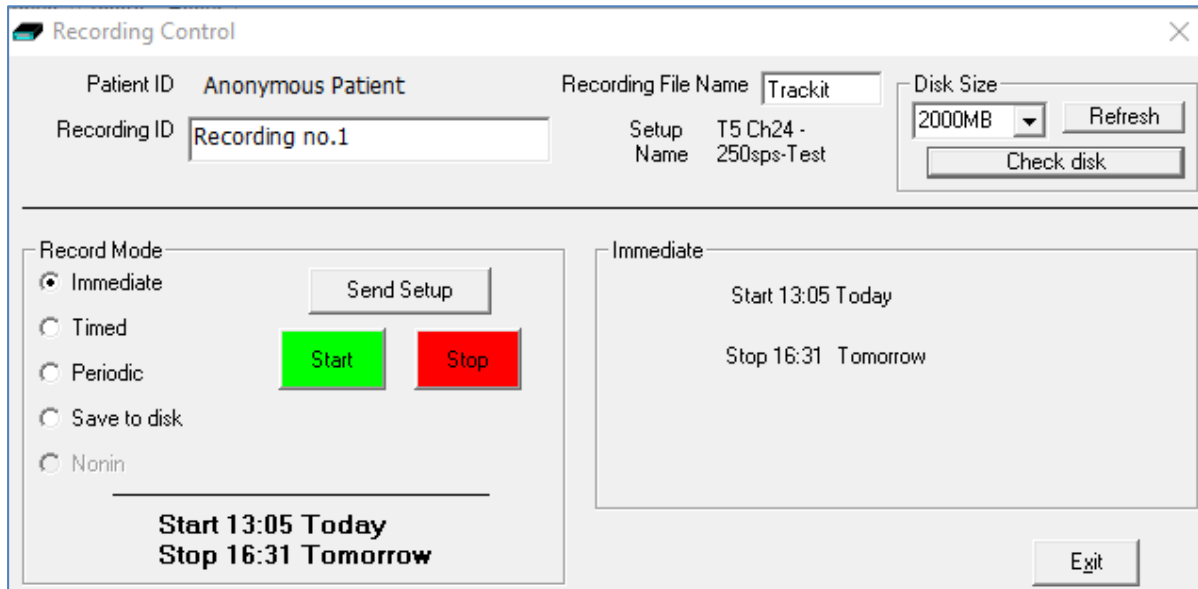

Figure 27: Recording Control panel
**Note:** If the patient details have not been entered beforehand, the Patient Details window (Figure 26 or Figure 27) will appear first.
9. The Recording Control panel (Figure 27) will appear.
Click on the 'Setup Recording' button in the Trackit Control Panel to open the Recording Control dialog box (Figure 27). The Recording Control panel is also displayed by pressing the "Amb Rec" or "Dual Rec" button on the Home toolbar.
**Immediate:** the recording starts as soon as the Start button is pressed (Figure 27). Recording finishes when the Trackit is turned off, when the disk is full or when the recording is stopped.